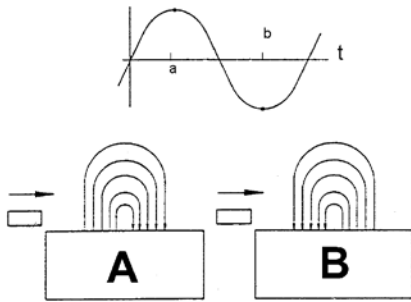

Fig. 4: Degaussing yoke
2. The field lines emerge vertically from the active surface of the degaussing yoke (fig.4).